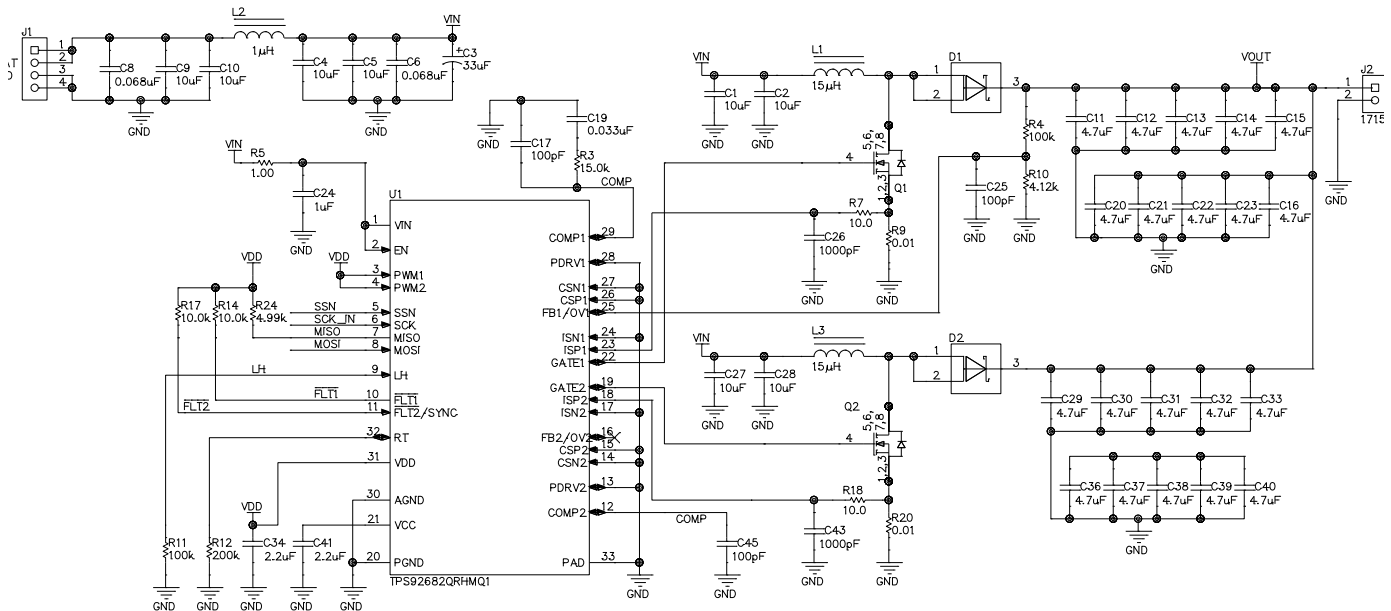

Figure 8-24. CV Mode Two-Phase BOOST
Figure 8-24 shows the schematic for a two-phase Boost Constant Voltage (CV) regulator.
Eight $10\text{-}\mu\text{F}$, 50-V ceramic capacitors are used in parallel to achieve a combined input capacitance of 80 μF . As shown in Figure 8-24, an additional $33\text{-}\mu\text{F}$, 50-V electrolytic capacitor and a $1\text{-}\mu\text{H}$ inductor are also used at the input terminal. The electrolytic capacitor is used to further decrease overshoot and undershoot during load transient. The input inductor is used to decrease the switching noise and improve EMI performance.